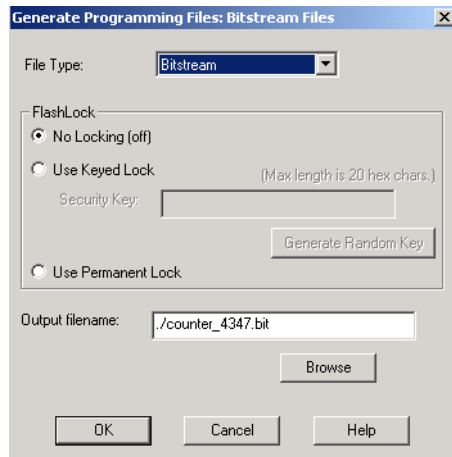

Figure 2-30. Bitstream Generation Dialog Box
1. **In the Tools menu, click *Bitstream* or click the *Bitstream* button in the Design Flow window.** This displays the Bitstream dialog box (as shown in Figure 2-30).